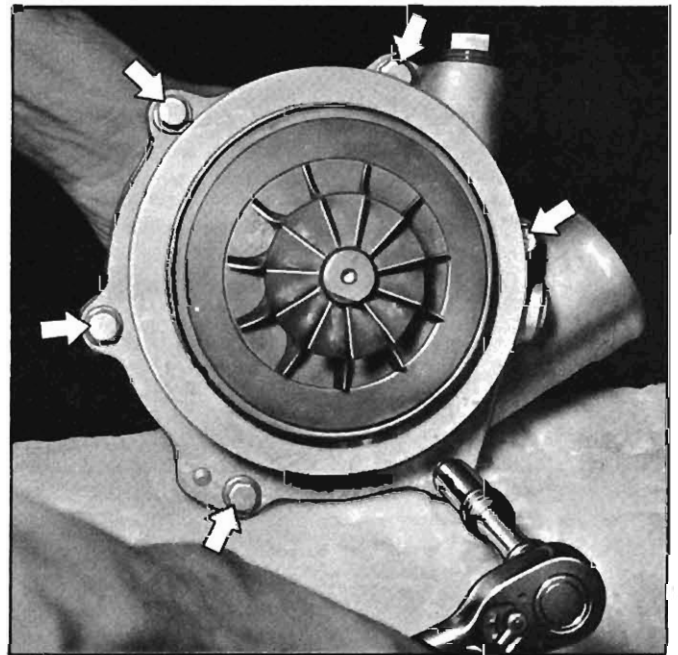

Fig. 9-32—Compressor Housing Retaining Bolts
5. Remove six retaining bolts (fig. 9-32) and remove compressor housing and gasket.